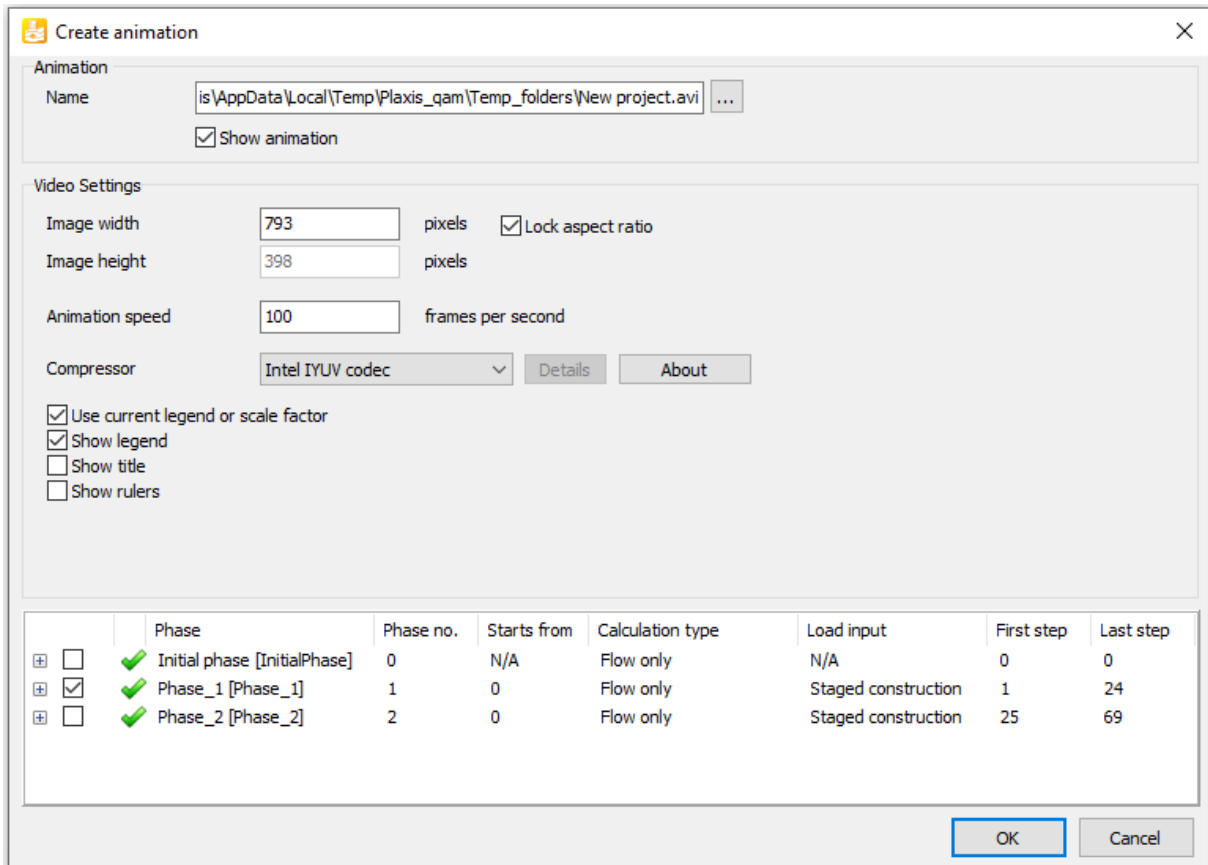

Figure 159: **Create animation** window
4. Deselect the Initial phase and Phase 2, such that only Phase 1 is included in the animations and rename the animation accordingly. The **Create animation** window is shown in Figure 159 (on page 184):